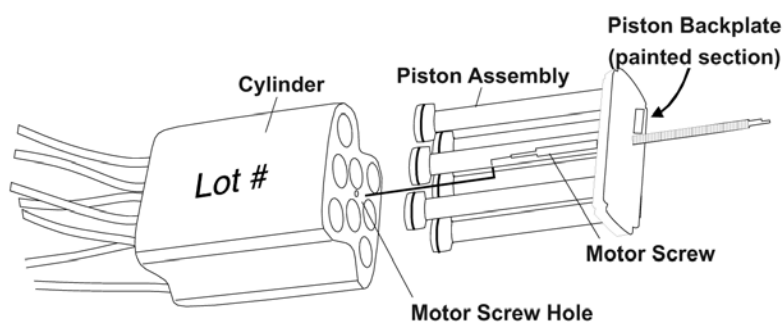

Figure F.1.4a: Reassemble Piston/Cylinder Assembly
- 1. Reassemble Piston/Cylinder Assembly** Reinsert the piston assembly into the lubricated cylinder. Ensure that the motor screw engages into the hole in the center of the cylinder (see Figure F.1.4a).